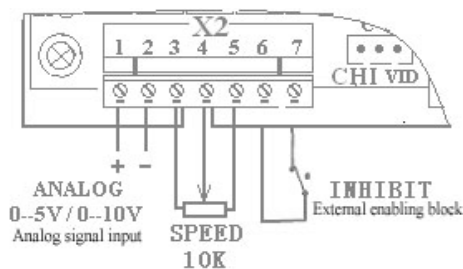

Figure 4
2. X2 control terminal wiring diagram: seen Figure 4
Enabling circuitry connecting - the control by a "enabling circuitry" to stop and open control (running when closed and stop when disconnected). Connect Switch to the terminal INHIBIT. See figure 4.